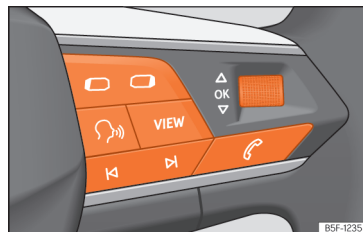

Fig. 71 Right side of the multifunction steering wheel: buttons to the menus and information displays on the instrument panel.
As long as a priority 1 »» page 73 warning is active, it will not be possible to access any menu. Some warnings can be confirmed and hidden with the button **(OK)** of the multifunction steering wheel »» **Fig. 71**.
- If a message or vehicle symbol is displayed, press the button **(OK)** »» **Fig. 71**; if necessary, several times.
- Use the **(◀)** or **(▶)** »» **Fig. 71** to switch between menus.
- To open the menu or the information displayed, press the button **(OK)** »» **Fig. 71** or wait
- In the menu displayed, turn the right thumb-wheel of the multifunction steering wheel »» Fig. 71 until the desired option of the menu is highlighted. The option appears framed.
- Press the button  »» Fig. 71 to make the required modifications. A mark indicates that the system or function is activated.
Press the  or  »» Fig. 71 button.